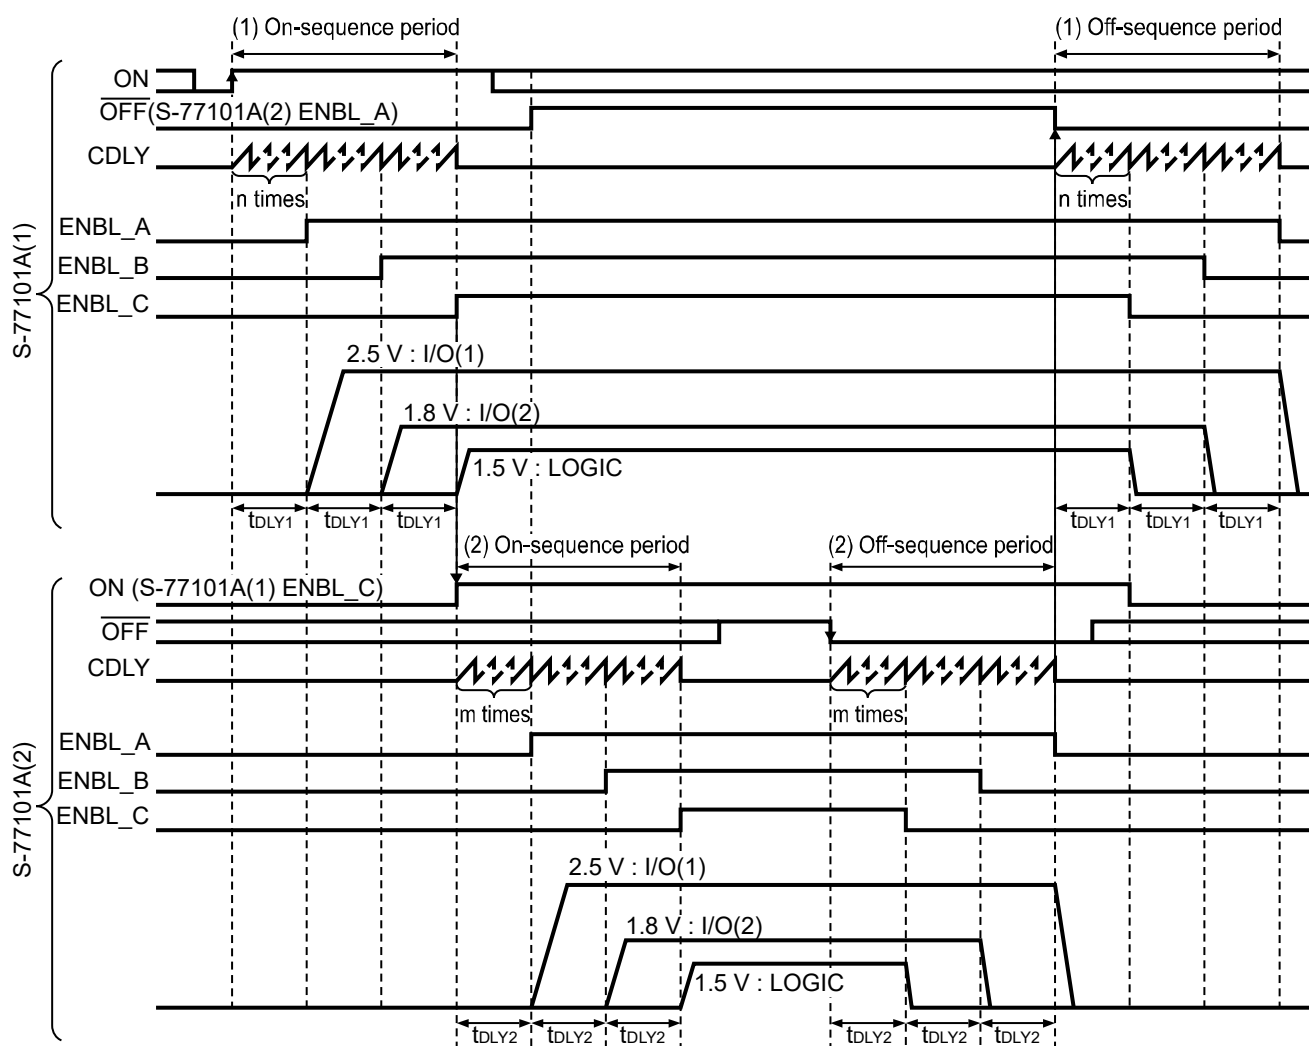

Figure 14 Timing Chart at Cascade Connection (S-77101A: Reverse Type, with $\overline{\text{OFF}}$ pin)
Figure 14 shows the timing chart.
As shown in **Figure 14**, after the ON pin of S-77101A(1) changes from "L" to "H", the on-sequence operation is performed if the $\overline{\text{OFF}}$ pin of S-77101A(2) is either "H" or "L". Similarly, after the $\overline{\text{OFF}}$ pin of S-77101A(2) changes from "H" to "L", the off-sequence operation is performed if the ON pin of S-77101A(1) is either "H" or "L". Therefore, due to connecting the control signal pin of the sequence controller, the ON pin of S-77101A(1) and the $\overline{\text{OFF}}$ pin of S-77101A(2), it is possible to control S-77101A(1) and S-77101A(2) with 1 signal.